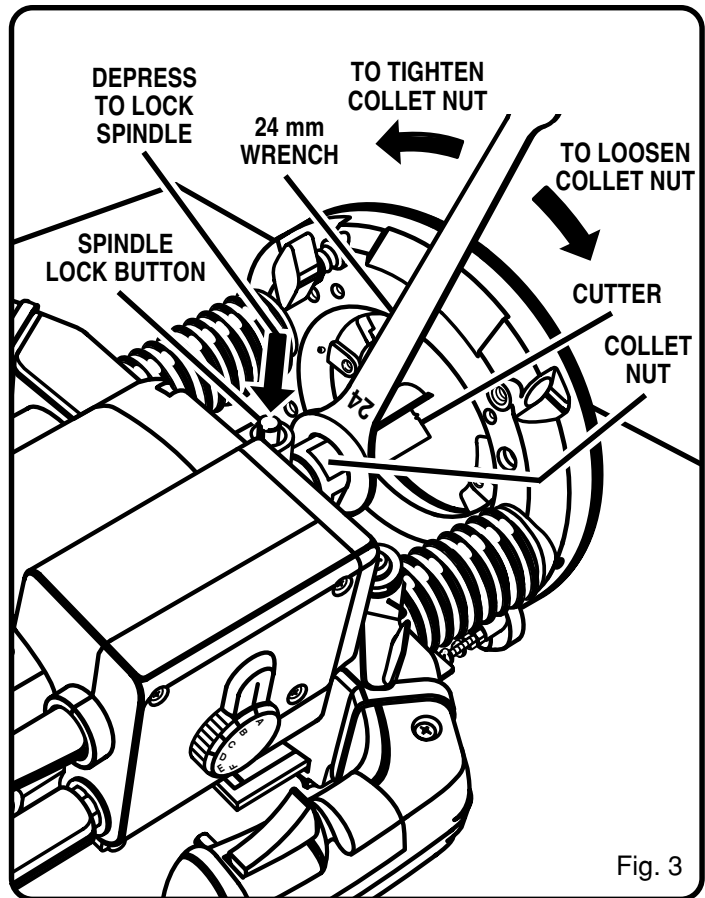

Fig. 3
See Figure 3.
- Lay your router on its side with the collet facing away from you and the spindle lock button facing up. See Figure 3.
- Remove cutters by turning collet nut counterclockwise enough to allow cutter to slip easily from collet. See Figure 3.
- Tighten the collet nut securely by turning clockwise with the wrench provided. See Figure 3.